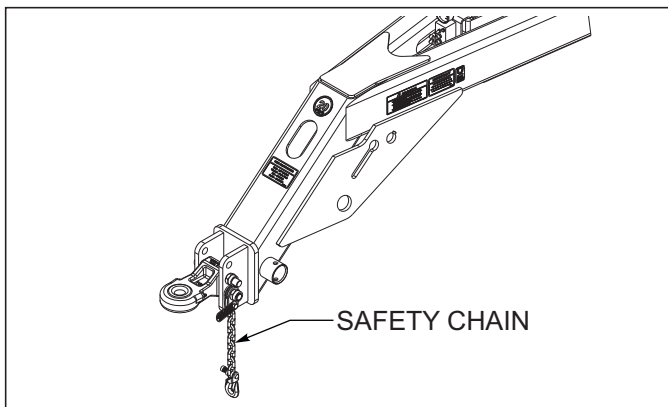

Figure 4-5: Safety Chain
b. Attach the safety chain to the tractor drawbar *See Figure 4-5* Provide only enough slack in the chain for turning. Do not use an intermediate chain support as the attaching point for the chain on the tractor. Refer to the tractor operator's manual for proper safety chain attachment. Do not pull the implement by the safety chain.